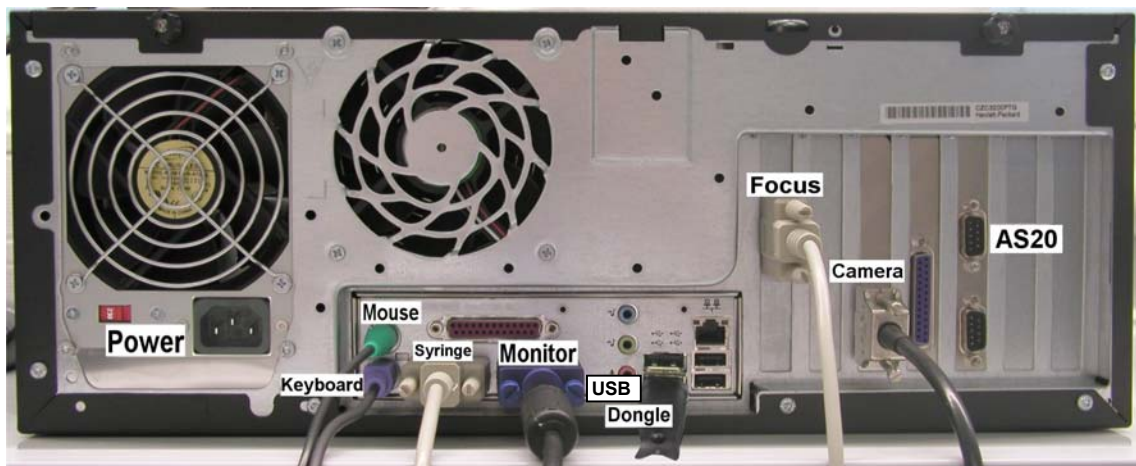

Figure 6
(See Figure 5 and Figure 6.)
8. Connect the Hardware key (USB-Dongle) to the **USB** port of the PC (see Figure 6).